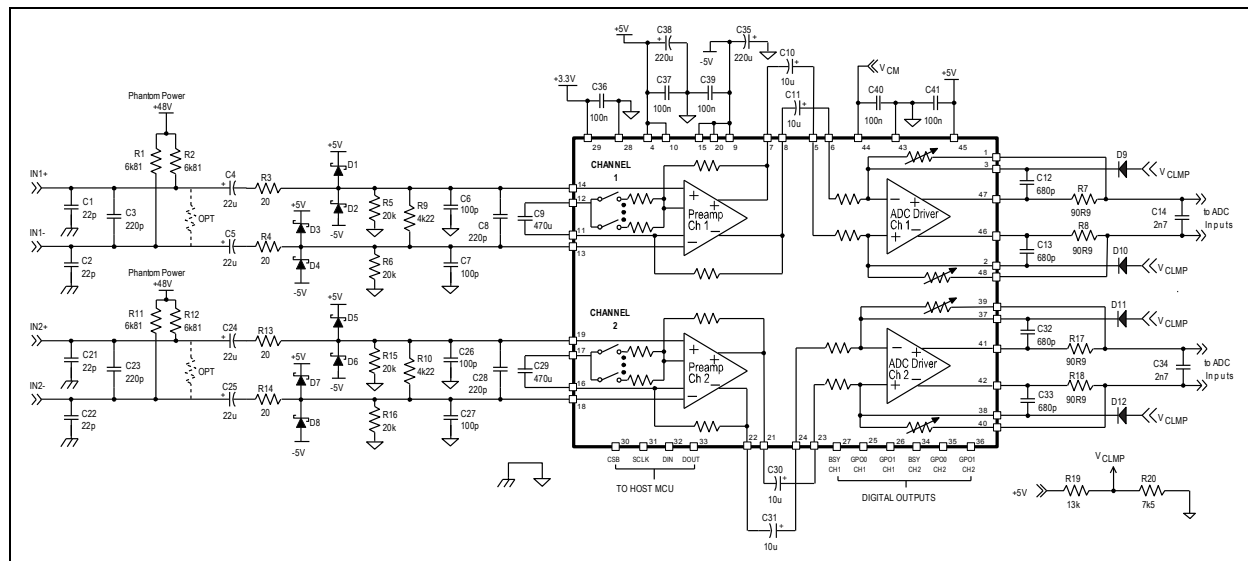

Figure 17. A typical bipolar-supply THAT 626x application circuit. See also Figure 18 for an alternative ADC anti-aliasing filter configuration.
Figure 17 is a typical 626x application circuit utilizing bipolar power supply rails. In this section, we discuss channel 1 in detail. However, all of the comments apply to the analogous components in channel 2.
The coupling capacitor (C9 in Figure 17, or CG in Figure 12) limits DC gain in the preamplifier to unity, regardless of the differential audio gain setting. The on-chip gain-setting R_G resistors in series with these capacitors vary with gain, which causes the cutoff frequency of the resulting high-pass filter also to vary with gain. This filter reaches its highest frequency at the minimum R_G (the highest gain), which is about 45 Ω (see Table 2). Hence, the highest cut-off frequency, with the 470 μF value shown in Figure 17 is ~ 7.5 Hz. Larger values will scale this frequency down proportionately. Since these capacitors, which are often physically large and stick up from the PCB, are effectively in series with the preamplifiers' inputs, they can serve as antennae to collect interfering signals. Take care to minimize possible sources of interference nearby that may be picked up by these large coupling capacitors.
The 626x ADC driver inputs (pins DI+_{CHx} and DI-_{CHx}) are capable of accommodating the full differential and common-mode signal range at the pre-amp outputs. However, the ADC driver’s fully-differential opamp inputs (brought out on pins CFB+_{CHx} and CFB-_{CHx}) have a common-mode input range of 1V to +5V. If this common-mode range is exceeded in the negative direction, the opamp’s inputs and outputs can get stuck close to ground. Diodes D9 and D10 in Figure 17 clamp the minimum voltage at the ADC driver opamp’s inputs to one diode drop below the voltage V_{CLMP} . For V_{CLMP} nominally +1.8V, the diodes ensure that the opamp’s inputs do not go below 1V above ground. This ensures that the ADC driver will accept the full 3.8V_p common-mode signal swing that can be present at the preamp outputs.
+5V) and ground. In Figure 17, this divider is made up of 13 k Ω and 7.5 k Ω resistors R19 and R20.
Phantom power is required for many condenser microphones. It is connected to the preamp inputs through resistors, R1 and R2, per +48V phantom power standards. THAT recommends the protection circuits as shown in Figure 17 when phantom power is included. R3 and R4 are to limit the current that flows through the preamp inputs during phantom power faults that can occur if one or both of the inputs are shorted to ground while phantom power is on. We recommend that R3 and R4 should be at least 20 Ω to limit destructive currents to under ~ 2.5 A. (Higher values provide more protection by further limiting current flow, but their additional source impedance adds noise.) The protection resistors used should be able to handle the short-term inrush current; many small surface-mount types cannot. With the values shown for C4 and C5, we recommend at least ¼ W resistors.
Figure 17) when C4 and C5 are as shown at 22 μF . The large 220 μF capacitor absorbs the charge dumped by C4 and/or C5, and keeps the -5 V rail from being pulled excessively negative, which could damage the 626x. If larger values are employed for C4 and C5, then C35 and C38 should be increased proportionately.
The most common anti-aliasing filter configuration for driving audio ADCs is shown in Figure 17. Capacitors C12 ~ C14, resistors R7 and R8, and the internal feedback resistors of the ADC driver form a second-order lowpass filter. Since R7 and R8 are inside the amplifier's feedback loop, the closed-loop output impedance remains quite low inside the audio band, but they still serve to isolate the ADC driver's output from the high-frequency charging currents for the typical ADC's switched-capacitor inputs. C14 should be placed physically close to the ADC input pins.
As noted above, in the 6261, the ADC driver's internal feedback resistors vary, which will have a small effect on the overall filter response. The frequency response for the -8 dB case is -3 dB at 560 kHz and -48 dB at 6.144 MHz. The response of the -5 dB case is -3 dB at 419 kHz and -51 dB at 6.144 MHz. As with the filter shown in Figure 17, for
As shown in Figure 17, THAT recommends a 100nF capacitor to ground on all the supply rails plus the VCM reference (pin 44) for high frequency noise filtering. For best effectiveness, place each 100nF capacitor close to its associated pin in the PCB layout. For rails with multiple pins, e.g., V_{A-} and V_{A+} , only a single 100nF capacitor is needed per supply; connect the capacitors near pins 9 and 10.
- Delete clamp diodes D9 and D10 and the V_{CLMP} voltage divider R19 and R20 (from Figure 17) as these are not required for unipolar operation.
Further, the DC level of the preamplifier output is one V_{BE} below +5V Filt (thus about +4.3 V), while the ADC driver input’s DC level is at V_{CM} (nominally +3.1 V). Hence, the ac-coupling capacitors between the preamp and ADC driver stages (C10 and C11) are reversed in polarity from those in Figure 17. We recommend these capacitors be rated at least 3.3 V.
Because the ADC driver V_{cm} voltage is set to +3.1V for unipolar applications, the full common-mode swing output swing from the preamp cannot force the ADC driver opamp inputs below the minimum allowable level. Hence, diodes D9 and D10 (and the associated voltage divider) as in Figure 17 are not needed when the 626x is powered by unipolar supplies.